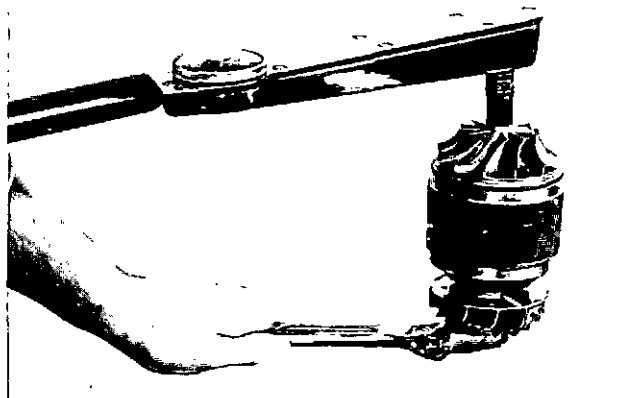

Fig. 2-12, (T3520). Torquing the rotor nut
10. Install the new locknut on the rotor shaft. Tighten with a torque wrench to 120 to 130 in.-lb. [13.6 to 14.7 N·m] maximum torque, Fig. 2-12.